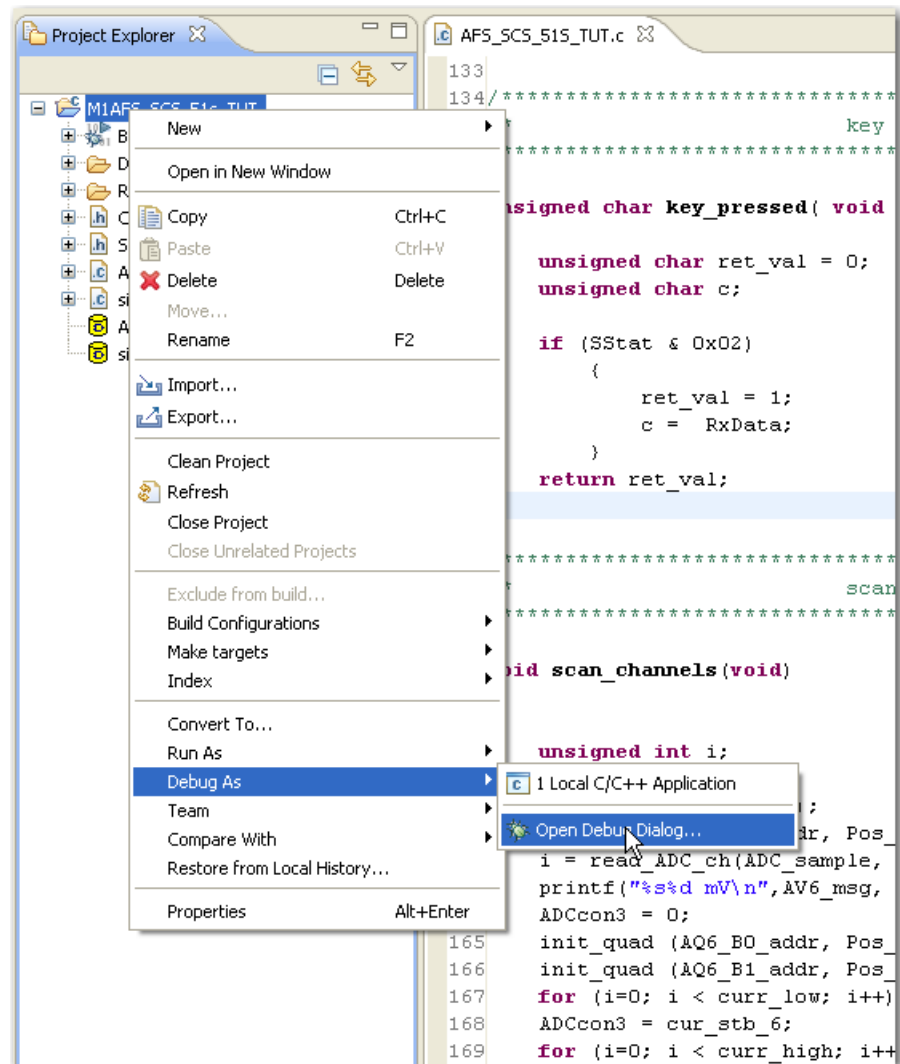

Figure 3-3 · Opening the Debug Dialog Box
1. In Project Explorer, right-click on the project and choose **Debug As**. Select **Open Debug Dialog** (Figure 3-3).